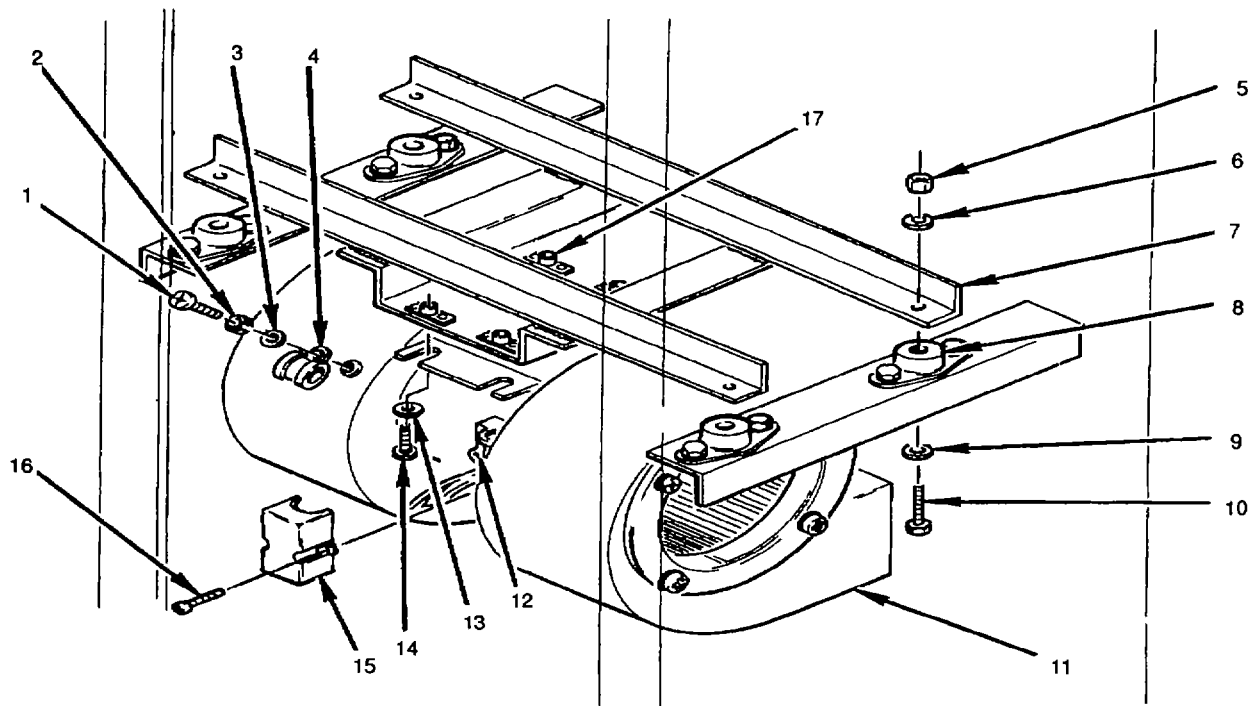

Figure 4-39. Condenser Motor and Housing Assembly
- (1) Disconnect air conditioner input power at source; and
- (2) Remove condenser fan section panel (paragraph 4.23).
- a. Remove two screws (16) securing cover (15) to J-box (12) (see fig. 4-39).
- b. Remove cover (15).
- c. Tag and disconnect leads from J-box (12).
- d. Remove screws (1), lockwashers (2), flat washers (3) securing cable tie-down clamps (4) to fan housing (11).